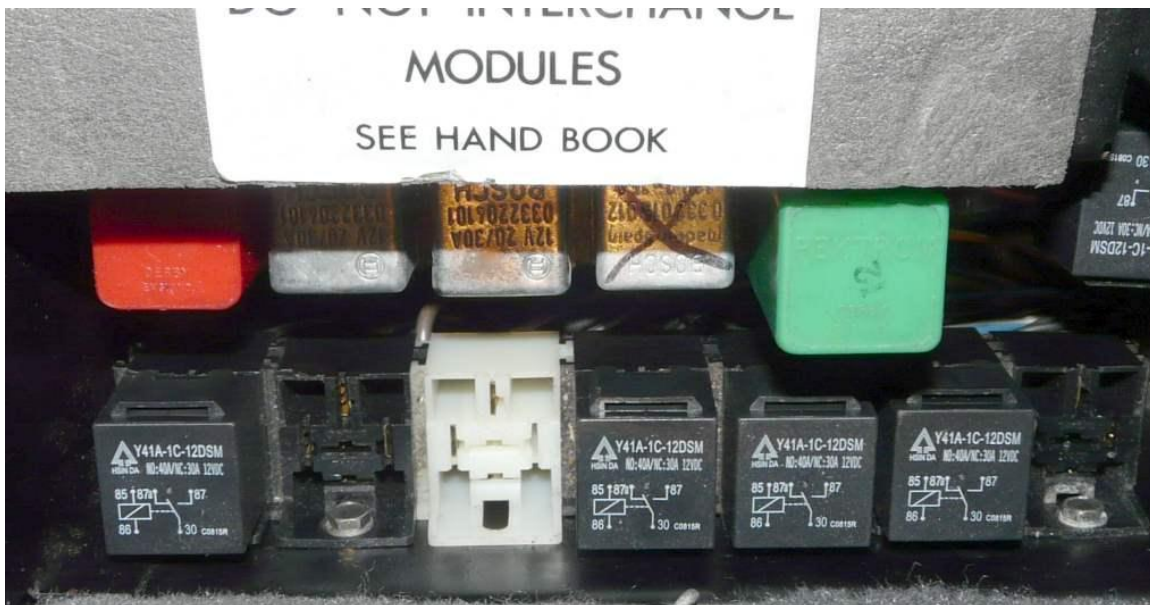

Figure 2. White relay socket and relay bank mounting screws.
1) The first thing you will need to do is remove all the relays from the sockets so you can remove the two screws on each relay bank holding the relay sockets in place (see Figure 2. below). The socket banks are built of individual sockets that slide together via dovetails on the sides of the sockets.